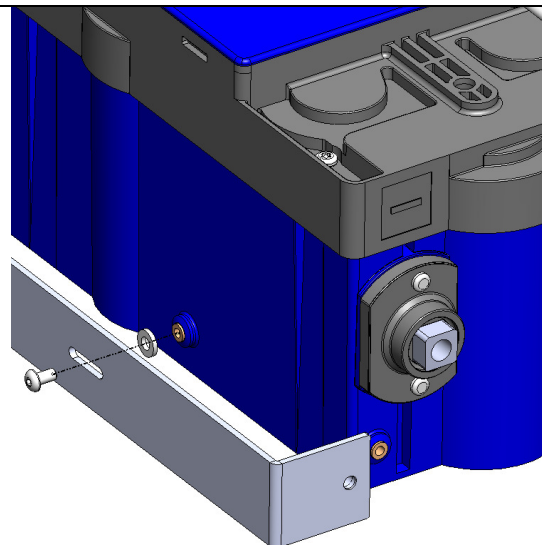

Figure 4b. Example mounting bracket with **slot**.
- If a slot is used, a washer with a maximum hole diameter of 6.0 mm should be included, as shown in Figure 4b.